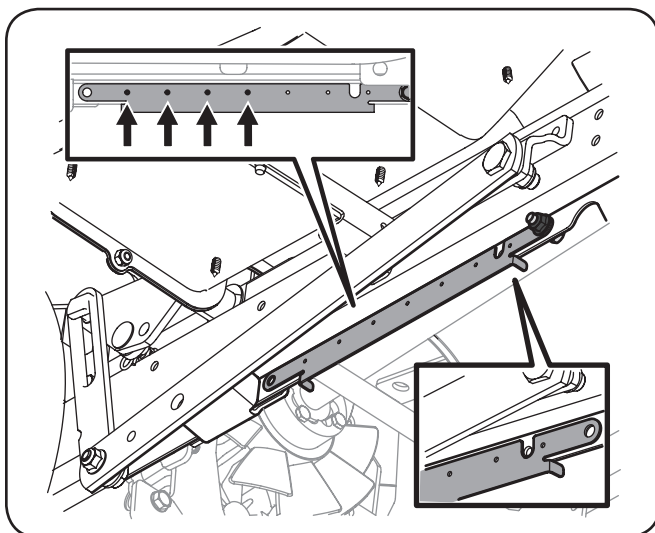

Figure 3-3
1. To mount the rear carriage hanger brackets a template is provided to drill additional needed holes. Using a hex screw and flange lock nut from the hardware bag, mount the template on the outside right of the frame. See Figure 3-3.
2. Using a $\frac{1}{32}$ " drill bit, drill the four $\frac{1}{8}$ " pilot holes shown in Figure 3-3.